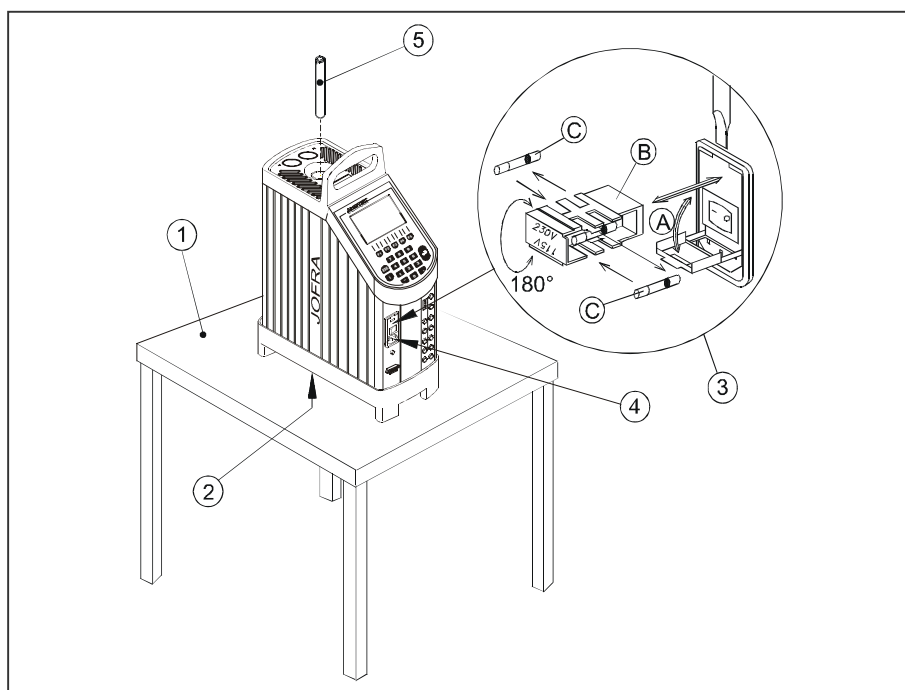

Fig. 1
- ② Ensure a free supply of air to the ventilator located at the bottom of the instrument.
- ③ Check the voltage of the power control switch (on/off switch (230V/115V)). If the voltage of the power control switch differs from the line voltage, you must adjust the voltage of the power control switch as follows (see Fig. 1):
- ④ Check that the earth connection for the instrument is present and attach the cable.
- ⑤ Select an insertion tube with the correct bore diameter. See section 3.3 for information on how to select insertion tubes.